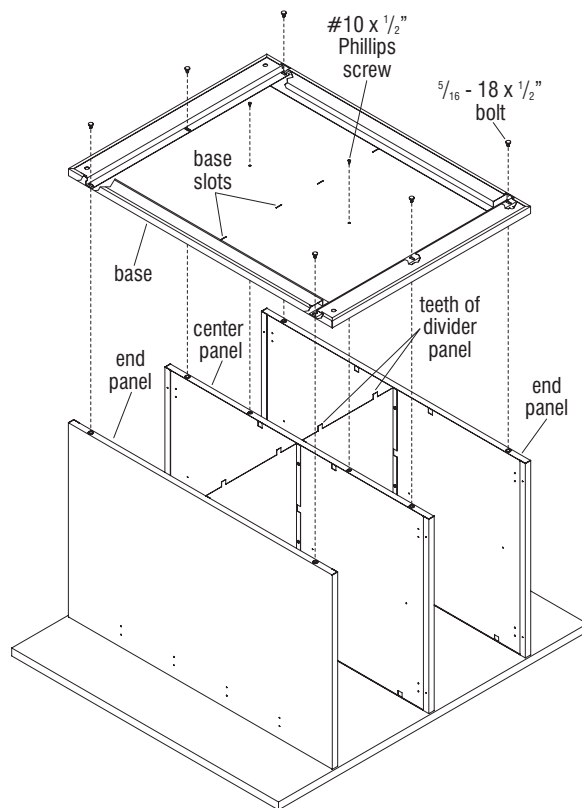

Figure 4
6. To install the base, first position it onto the installed end and center panels as illustrated, while aligning and inserting the divider panel "teeth" through the slots in the base. Locate the six oblong holes in the bottom reinforcements of the base, then secure the base to the center and end panels using six $\frac{5}{16}$ -18 x $\frac{1}{2}$ " bolts, two into each panel (Figure 4).
7. At two mounting hole locations near the center of the base, insert and tighten two #10 x $\frac{1}{2}$ " Phillips screws through the base and into the center panel (Figure 4).